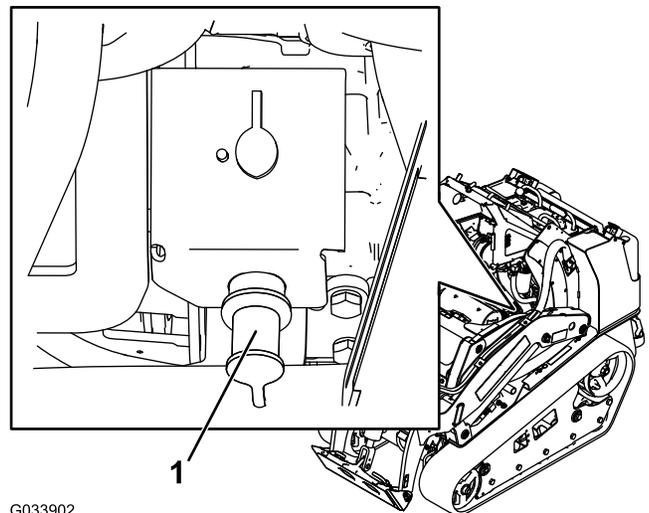

Figure 51
2. Remove the cover from the jump post (Figure 51).
3. Connect an end of the positive (+) jumper cable to the jump post (Figure 51).